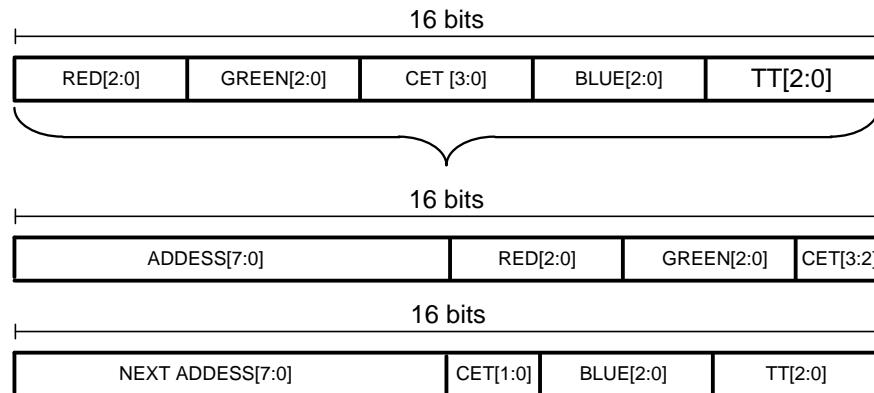

Figure 3.
The LP39542 has an unique stand-alone command based pattern generator with 8 user controllable 16-bit commands. Since registers are 8-bit long one command requires 2 write cycles. Each command has intensity level for each LED, command execution time (CET) and transition time (TT) as seen in Figure 3.